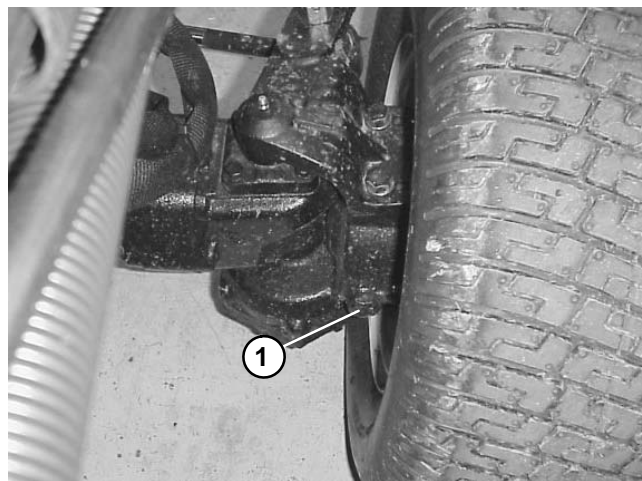

Figure 6
6. Remove each gear case check plug. Add enough lubricant to bring the level up to the bottom of each check plug hole (Fig. 6).